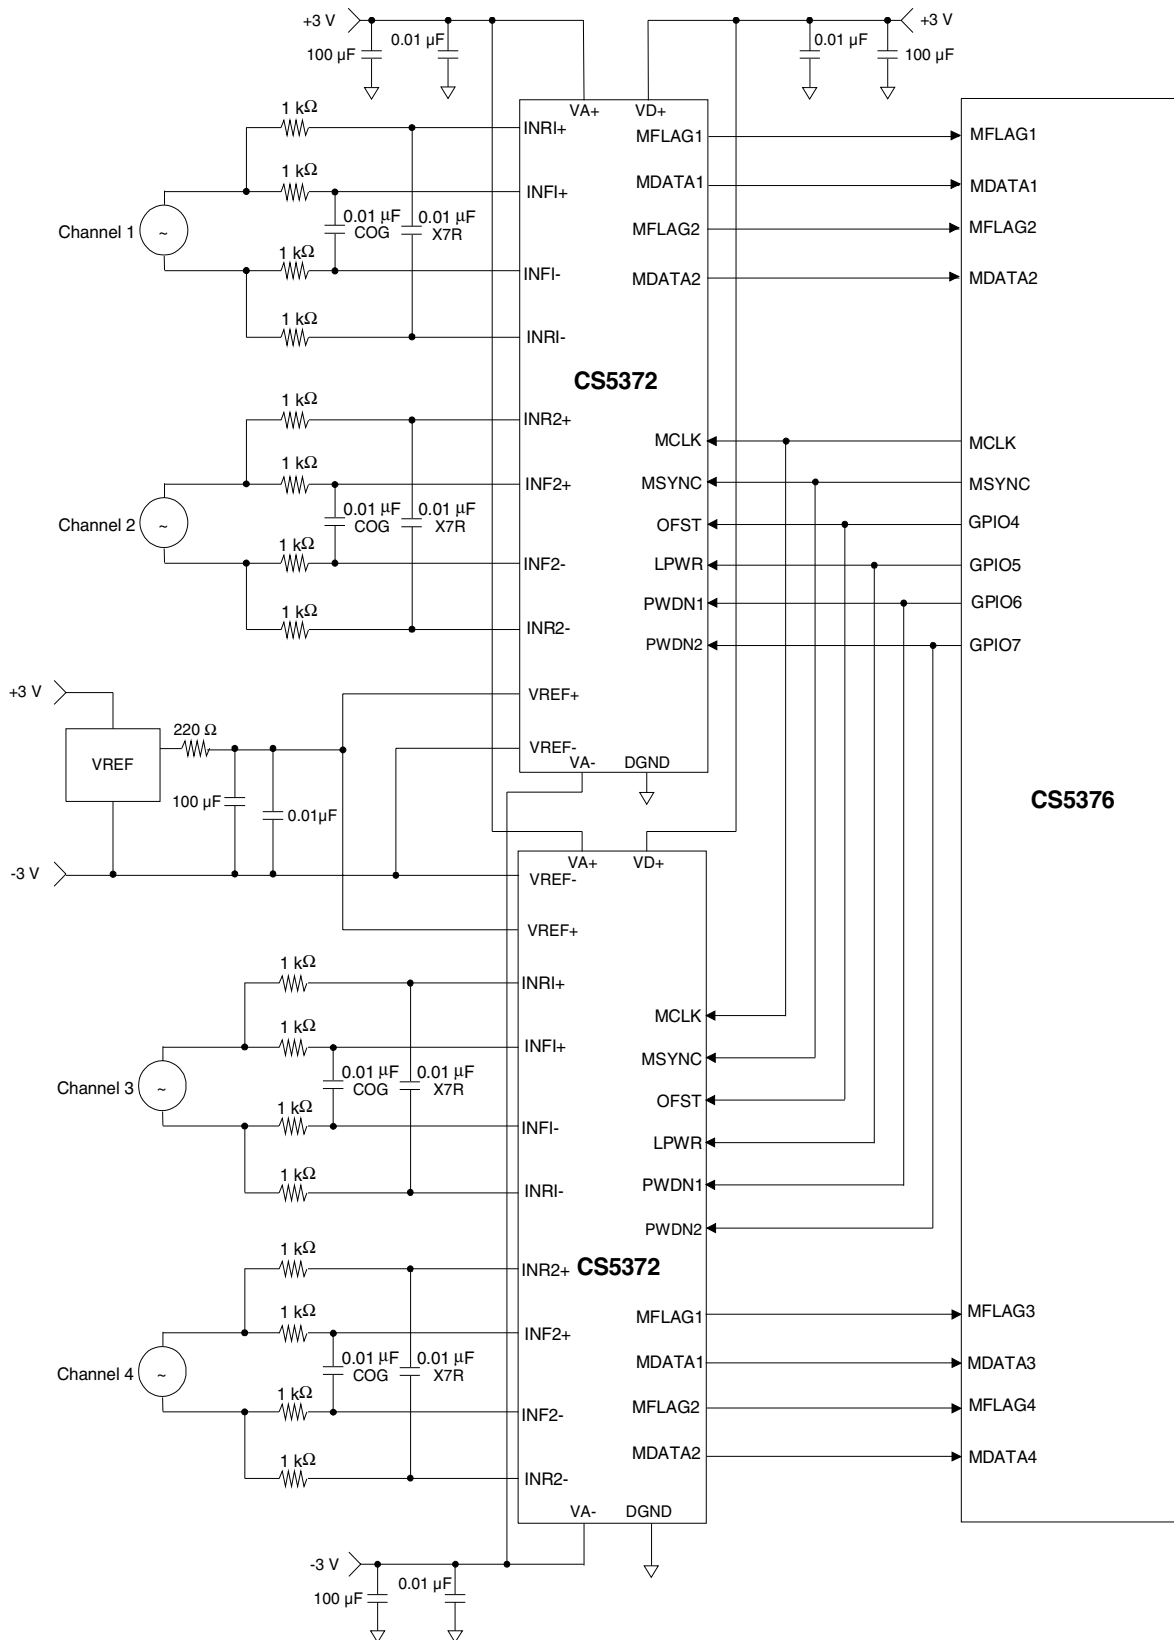

Figure 3. System Connection Diagram
9. The input voltage range is for the configuration depicted in Figure 3, the System Connection Diagram, and applies to signal frequencies from DC to the stop-band frequency selected in the CS5376.
The CS5371 and CS5372 are one and two channel fourth-order Δ - Σ modulators, optimized for extremely high resolution measurement of signals between DC and 1644 Hz. They are designed to be used with the CS5376 low power multi-channel decimation filter. Figure 3 on page 8 shows a four-channel system connection diagram for two CS5372 and one CS5376.
Figure 3 illustrates the CS5372/CS5376 system connections with input anti-alias filter components. Filter components on the rough and fine pins should be identical values for optimum performance, with the capacitor values a minimum of 0.01 μF . The rough input can use either X7R or C0G capacitors, while the fine input requires C0G type capacitors for optimal linearity. Using X7R capacitors on the fine inputs will degrade signal to distortion performance up to 8 dB.